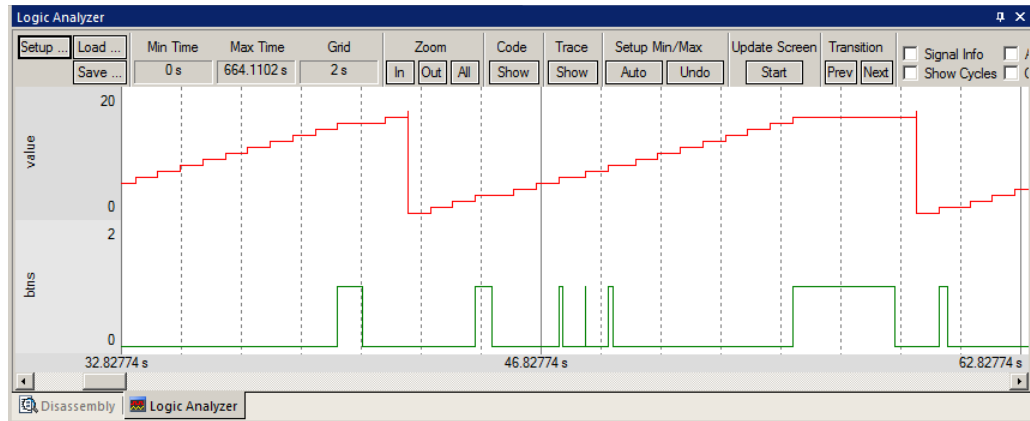

Figure 8. Logic Analyzer showing two variables.
6. Click on Run to run the program. In the Logic Analyzer window (Figure 8), click on Zoom Out until Grid is about 1 second. The variable value will increment to 0x10 (decimal 16) and then is set to 0.
7. Enter the static variable **btns** into the LA and set the Display Range Max: to 0x2. Click on RUN and press the User button and see the voltages in Figure 8.